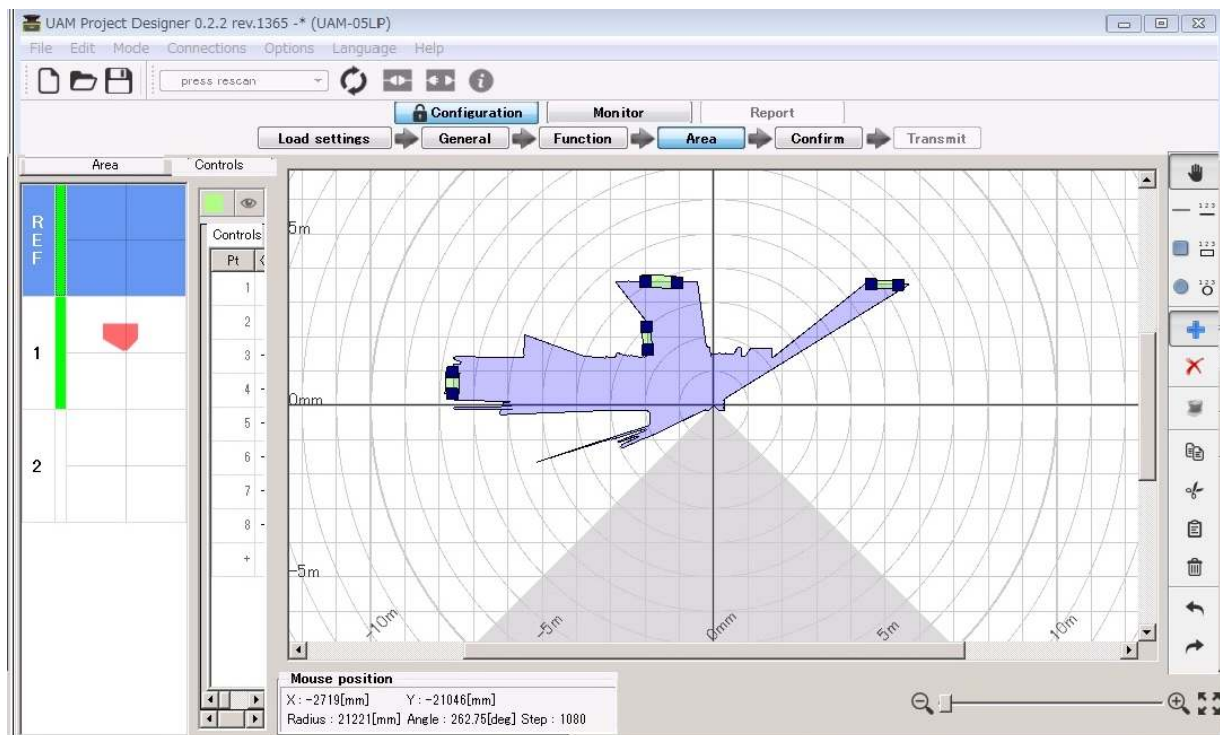

Figure 7-49 Reference region configuration example
- Main screen displays the configuration for reference region (Figure 7-49). First area on the preview indicated by “REF” represents the reference area.
For example, to monitor the sensor's displacement by referring the background, choose the line drawing tool and draw a line segment over the background by mouse drag and drop. Reference region with the \pm tolerance is generated on that location (Figure 7-49).